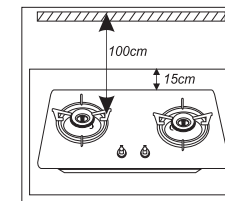

Fig.4
- The sides of gas cooker must keep more than 15 cm away from flammable material and wall. Gas cooker must keep more than 100cm away from the objects above gas cooker. (Fig.4)